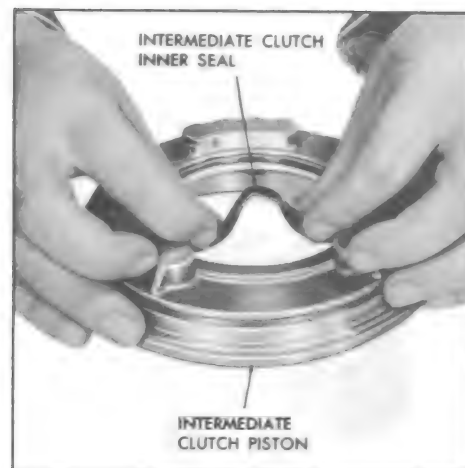

Figure 5-654
1. Install new inner seal on the piston with lip of the seal facing away from the spring pocket. See Figure 5-654.